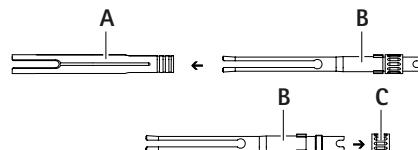

Fig. 8
- Unscrew fixing screw **C** from the rear end and remove from collet **B**, see Fig. 8.